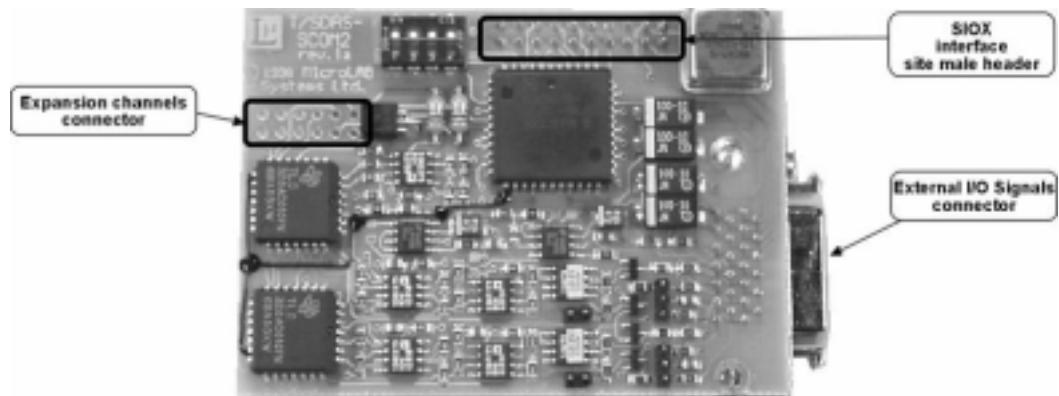

Fig. 1-1. *T/SDAS-SCOM2* daughter-card module.
*T/SDAS-SCOM2* is dual-channel AD/DA front-end SIOX (serial I/O expansion) daughter-card module (fig.1-1) for *TORNADO* DSP systems (*TORNADO-3x/54x/6x/etc*), *TORNADO-E/EL* stand-alone DSP controllers (*TORNADO-E3x/E54x/E6x/etc*) and *TORNADO-PX/SX* DSP coprocessors (*TORNADO-PX31DP/SX30/etc*) from MicroLAB Systems Ltd.